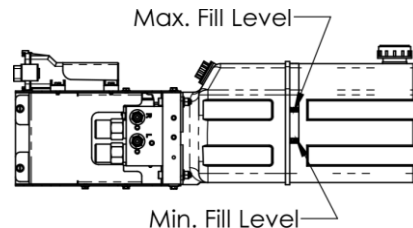

Figure 4. Final fill fluid level.
7. Add fluid to the reservoir until the fluid level is within the band shown in Figure 4.